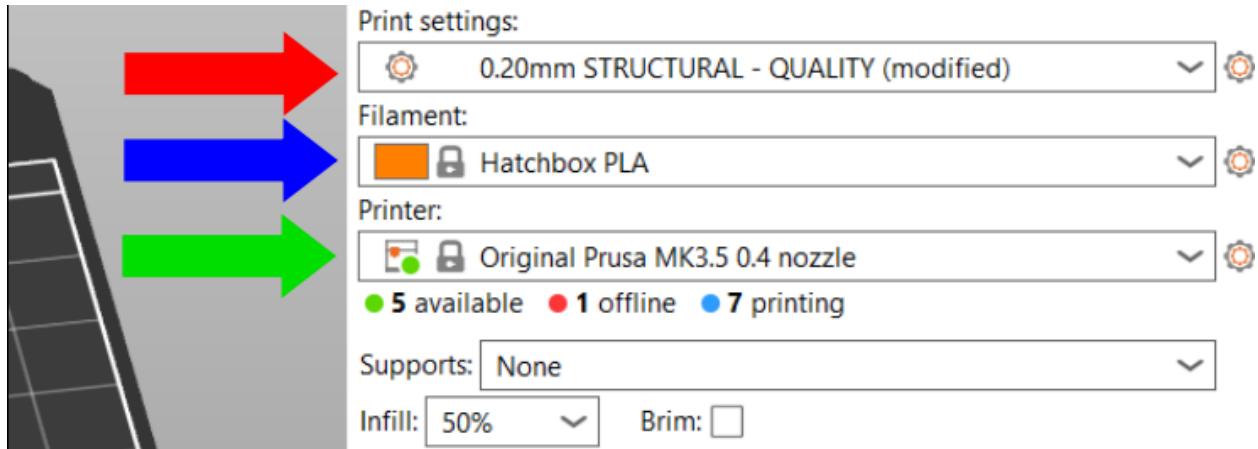

Figure 4
5.) Go back to the “Plater” tab in the top left corner of PrusaSlicer. Then click the “Print settings” drop-down menu and select the 0.20mm Structural option (see red arrow in Figure 4).
6.) Open the Filament drop-down menu (see blue arrow in Figure 4) and select the filament type you want to print in. a. Note: The recommended material for this device is PLA, but PETG is also acceptable.
7.) Open the Printer drop-down menu (see green arrow in Figure 4) and select your printer make and model. a. Note: If you don’t see your specific printer in the drop-down menu, follow these instructions to add them: